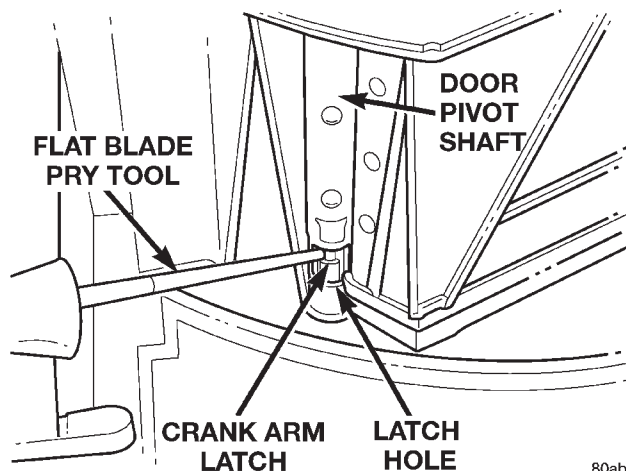

Fig. 52 Mode Door Lever Remove/Install - Typical
(1) Remove and disassemble the heater-A/C housing. See Heater-A/C Housing in this group for the procedures.
(2) Remove the defrost and panel/demist door vacuum actuators from the heater-A/C housing. See Mode Door Vacuum Actuator in this group for the procedures.
(3) Insert a screwdriver into the latch hole (Fig. 52) of the panel/demist door pivot shaft to release the latch of the panel/demist door lever, and pull the lever out of the pivot shaft from the outside of the upper half of the heater-A/C housing.
(2) Remove the panel/demist door and lever from the upper heater-A/C housing. See Panel/Demist Door and Lever in this group for the procedures.
(3) Insert a screwdriver into the latch hole (Fig. 52) of the defrost door pivot shaft to release the latch of the defrost door lever, and pull the lever out of the pivot shaft from the outside of the upper half of the heater-A/C housing.
(2) Remove the floor door vacuum actuator from the lower heater-A/C housing. See Mode Door Vacuum Actuator in this group for the procedures.
(3) Insert a screwdriver into the latch hole (Fig. 52) of the floor door pivot shaft to release the latch of the floor door lever, and pull the lever out of the pivot shaft from the outside of the lower half of the heater-A/C housing.